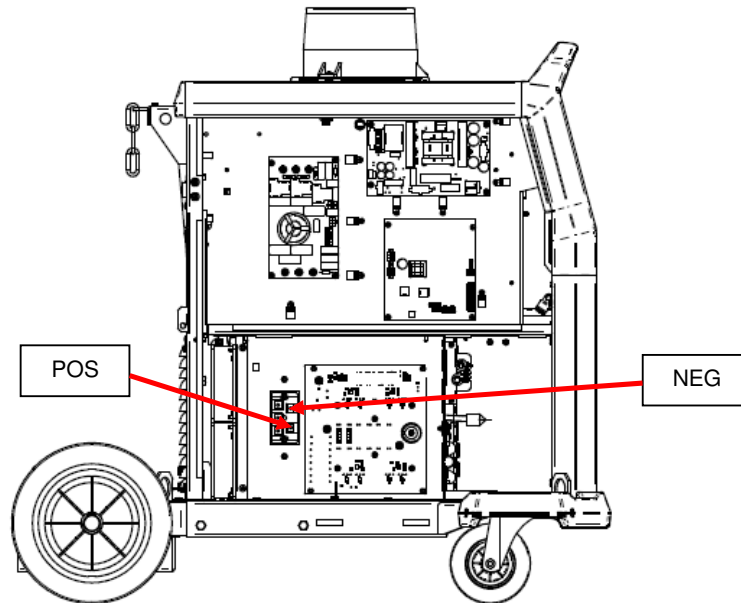

Figure 1
4. Locate the terminals **POS** and **NEG** on the Input Rectifier Bridge, **See Figure 1**.
8. Use electrically insulate gloves and insulated pliers. Hold the body of the resistor and connect the resistor leads across the two points POS and NEG. **See Figure 1**. Hold the resistor in place for 10 seconds. DO NOT TOUCH CAPACITOR TERMINALS WITH YOUR BARE HANDS.